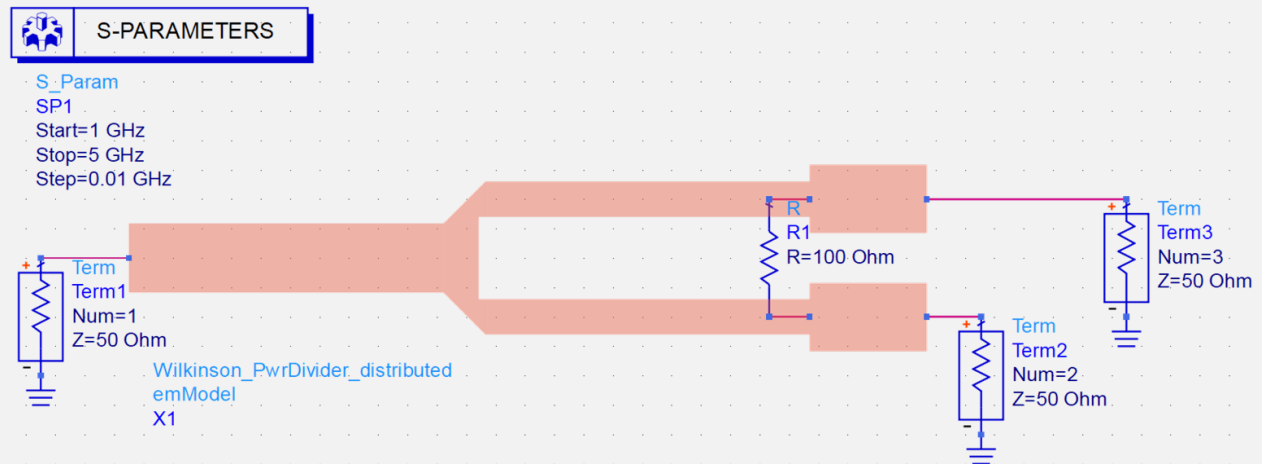

Figure 20. Schematic showing emModel used
11. Set up a S-Parameter simulation from **1 GHz** to **5 GHz** with a step size of 0.01 GHz. The final schematic is shown in Figure 20.